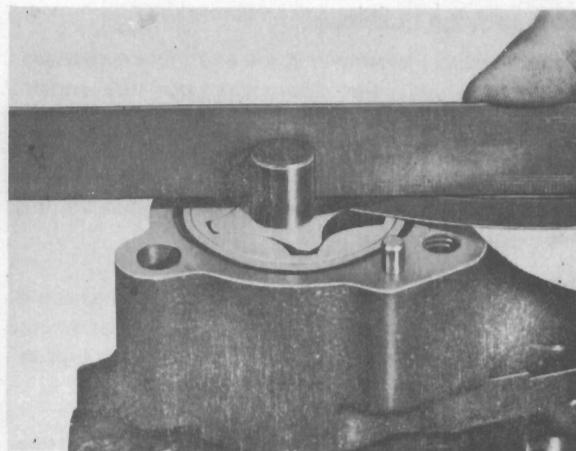

Fig. L.11.
4. Check the clearance between the top of the rotors and the surface of the pump body with a feeler gauge and straight edge. See Fig. L.11.